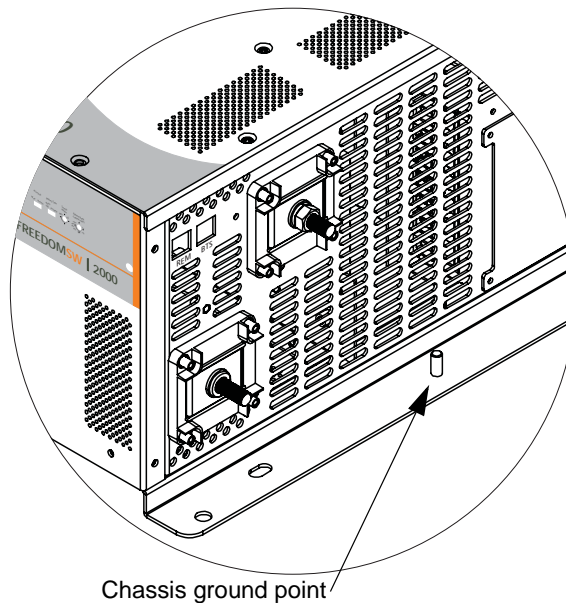

Figure 5 DC Wiring and DC Grounding
1. Using the appropriate wrench, loosen the bolt on the chassis ground point shown in Figure 5.